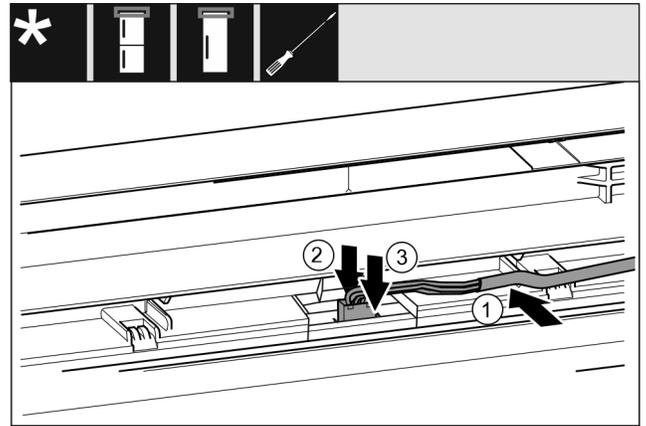

Fig. 42
- ▶ Insert the gray cable into the guide in the top door. *Fig. 42 (1)*
- ▶ Press the latching lug backward *Fig. 42 (2)*
- ▶ Engage the plug. *Fig. 42 (3)*